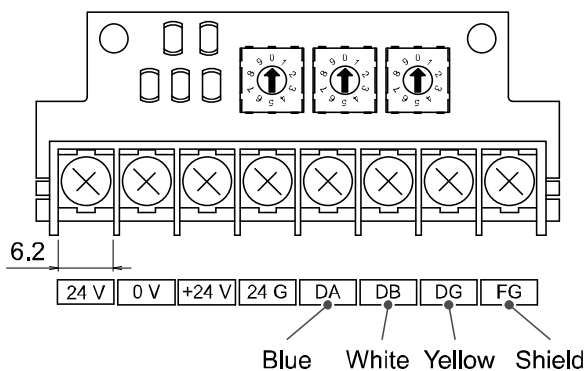

Fig. 1
(1) Be sure to connect each signal line to its dedicated terminal. (Refer to Fig. 1)